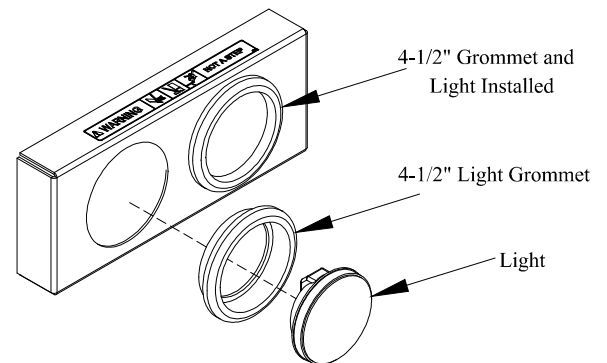

Figure 12: Lights and light grommets in enclosure. 2-light kit is shown, 3-light kit is similar.
1. Press the light grommets into the large holes in the enclosures (Figure 12).
6. Firmly Push lights into installed light grommets until they are secured (Figure 12).